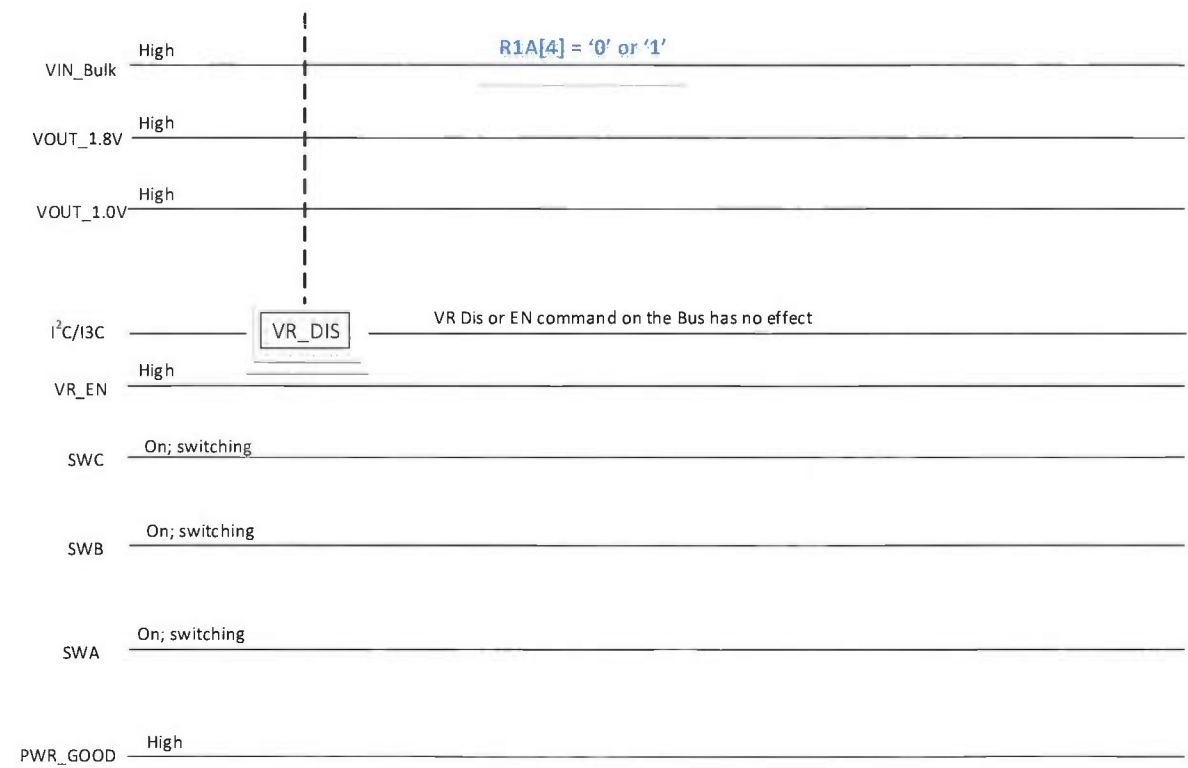

Figure 30 — VR_DIS or VR_EN CMD on Bus; R1A[4]=x; Secure Mode; PWR_GOOD Signal
- a. Note that VR Disable or Enable command on a I²C/I³C Basic Bus (i.e., Table 146, Register 0x32 [7] = '0' or '1') has no effect on the PMIC. Also, configuring one or more bits in Table 143, Register 0x2F [6,4:3] to '0' has no effect on the PMIC. See Figure 30.
- a. Note that VR Disable or Enable command on a I²C/I3C Basic Bus (i.e., Table 146, Register 0x32 [7] = '0' or '1') has no effect on the PMIC. Also, configuring one or more bits in Table 143, Register 0x2F [6,4:3] to '0' has no effect on the PMIC. See Figure 30.